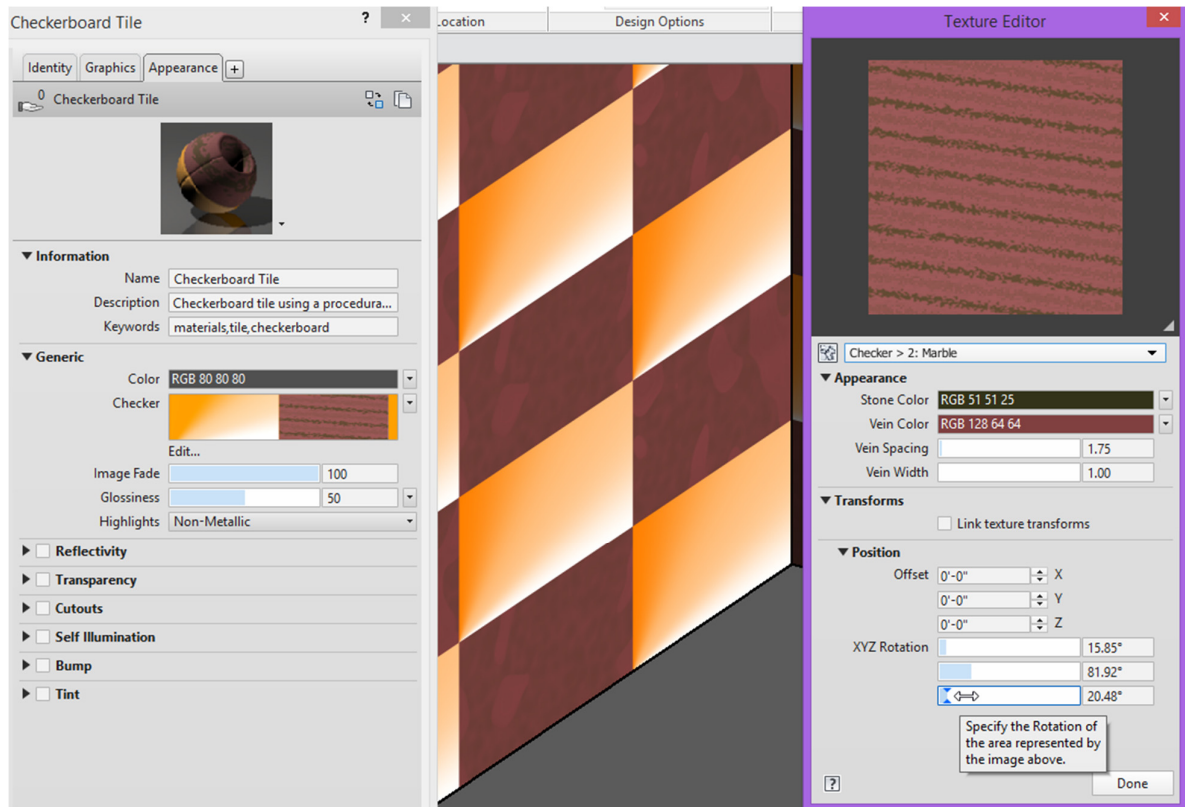

Figure 16—Vary some of the rotation settings, colors and vein settings to get better results
- It will take some trial and error, but make adjustments to the colors, Vein Spacing, Vein Width and rotations (see Figure 16).